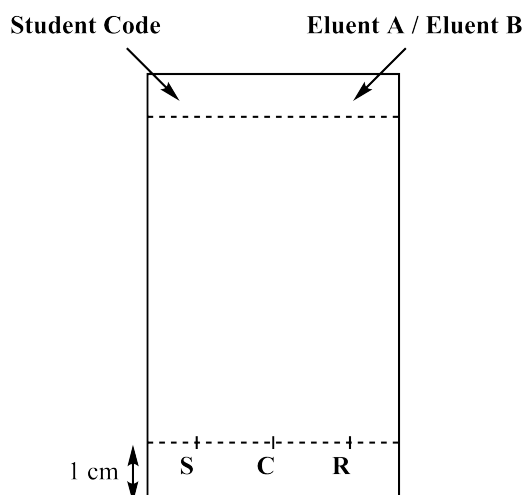

Figure 3. TLC plate preparation
3. **Prepare your TLC plate.** Use a pencil to **draw** carefully the start line (1 cm above the bottom of the plate) and **mark** the positions in order to spot the 3 samples. **Label** them **S** (Starting material), **C** (Crude product) and **R** (Recrystallized product), as described in Figure 3. On the top left of the plate, **write** your **Student Code**. On the top right of the plate, **write** the eluent you use (**Eluent A** or **Eluent B**). **Spot** the three samples on the plate, using capillary spotters.